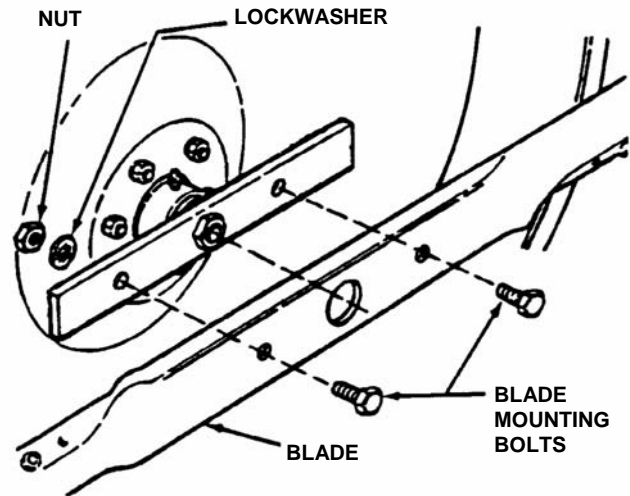

FIGURE 4.11
4. Remove blade. See Figure 4.11.
8. Reinstall blade. See Figure 4.11. Torque blade mounting bolts to recommended range of 30 to 40 ft. lbs.